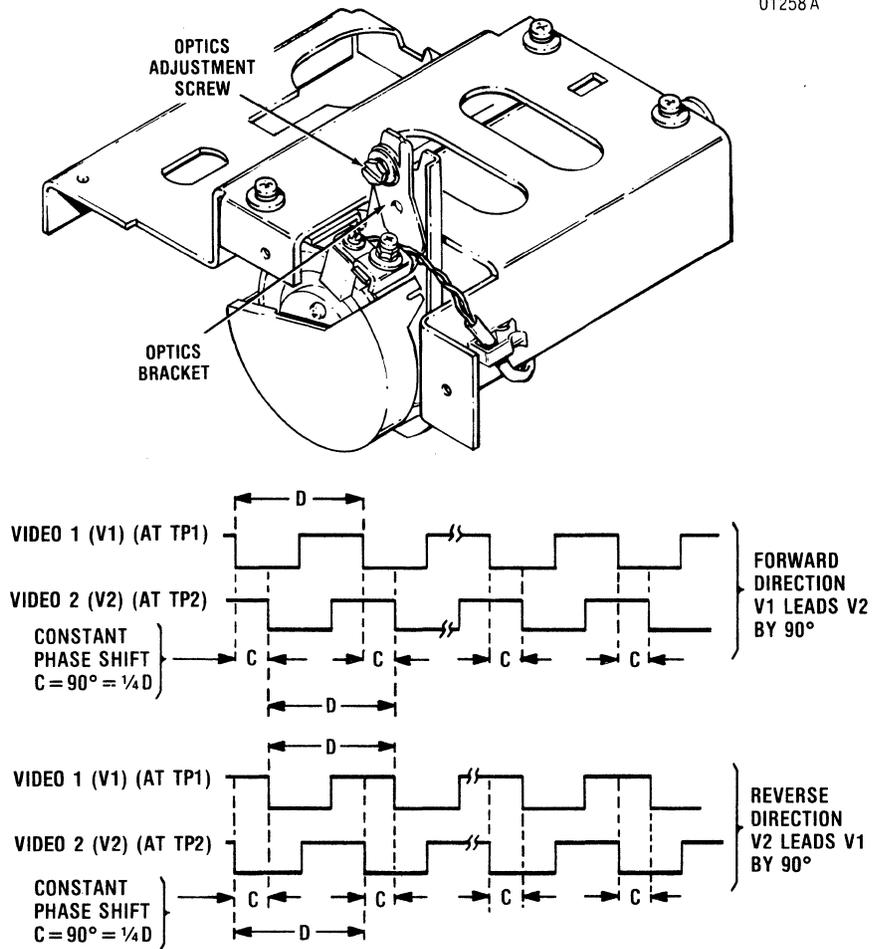

Figure 4-7 Electrical Adjustment, Optical Sensor and Encoder/Timing Disc
10. Press the **SELECT** switch and move the optics bracket right or left until the VIDEO 1 and VIDEO 2 signals are adjusted as shown in Figure 4-7.